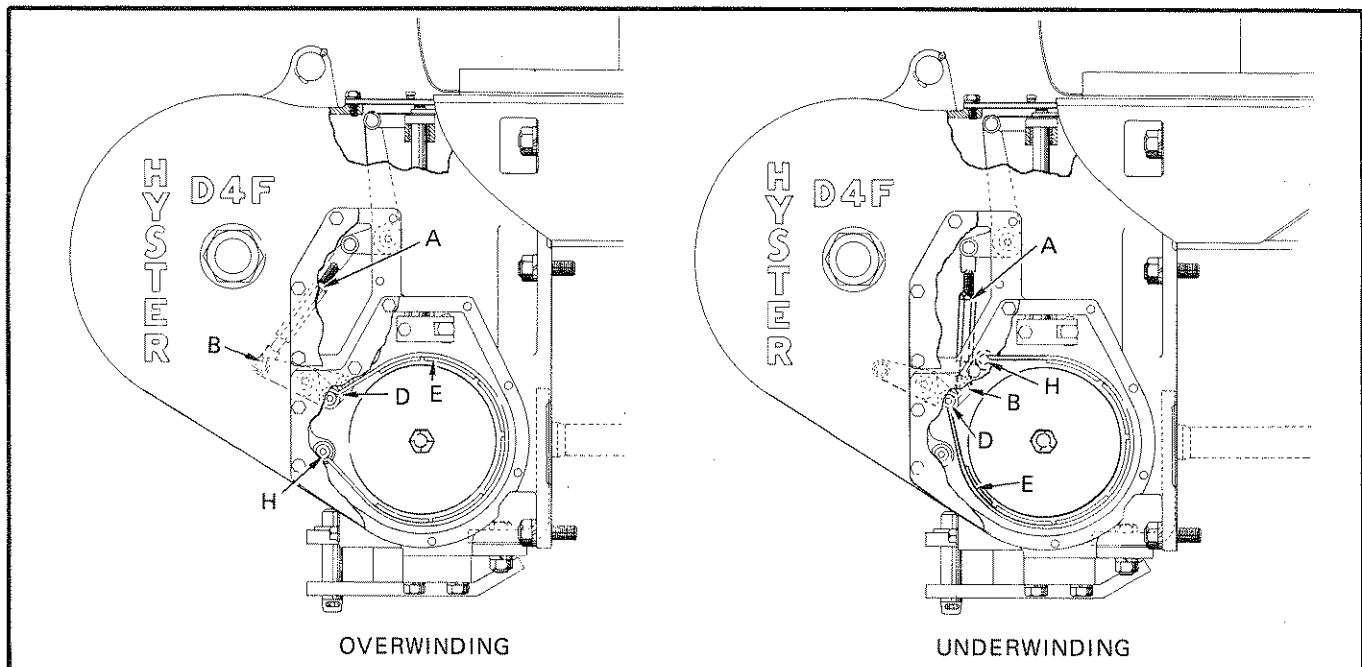

Figure 4-5. Overwind Brake Band Adjustment
- a. Brake Band. (See Figure 4-5). Change the anchoring end of the brake band by changing the position of pins "D" and "H". Remove and position "B" as shown and then adjust turnbuckle "A" so there is approximately 1/32 inch clearance